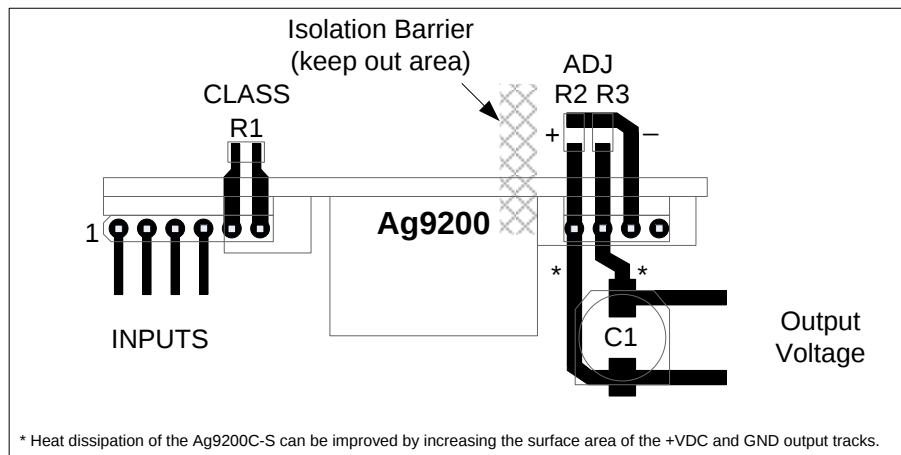

Figure 8: Typical Layout
To meet the safety isolation requirements of IEEE802.3af section 33.4.1 a Powered Device (PD) must pass the electrical strength test of IEC 60950 sub clause 6.2. This calls for either a) 1000VAC test or b) 1500V impulse test. The Ag9200 is designed to meet b) 1500V impulse test. It is also important that the tracks on either side of the isolation barrier have at least a 3mm clearance, see Figures 8 & 9 and Section 11 for more information.
Figure 8: Typical Layout gives an example of the tracking needed for the Ag9200. R1, R2 and R3 are optional components. The thermal performance of the Ag9200 can be improved by increasing the surface area of the output tracks (+VDC and -VDC). This is not applicable if the Ag9200 is in a socket.